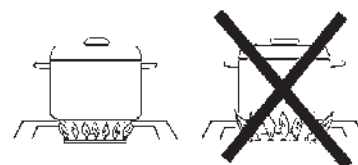

FIG. 10
- For safety reasons the flame must never extend beyond the bottom of the cooking utensil. Never allow flames to curl up the side of the pan (see Fig.10).